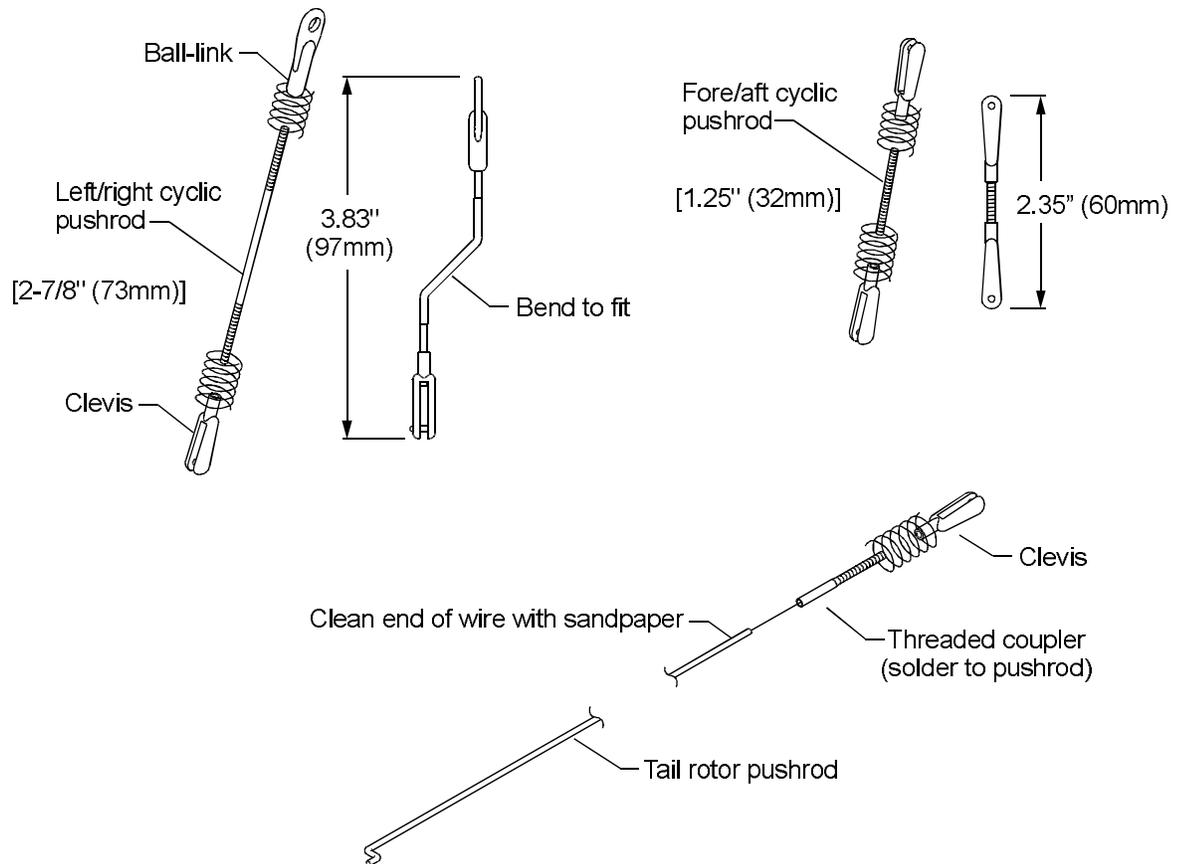

Figure 13-1.
- ❑ 1. Bend the left/right cyclic pushrod as shown in Fig. 13-1, and assemble all pushrods. Note that the left/right cyclic pushrod has a ball-link on one end and a clevis on the other.